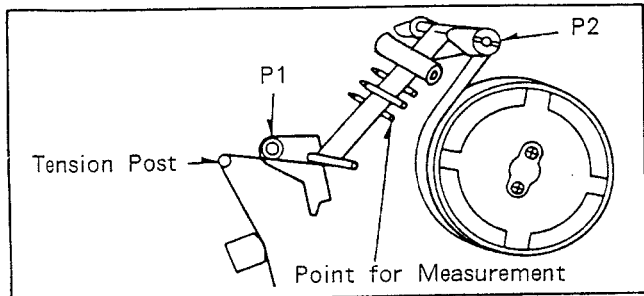

Fig. M22 Measurement of Back Tension
2. Insert the Back Tension Meter into the path of a tape, and measure the back tension to be within specification as shown in Fig. M22.